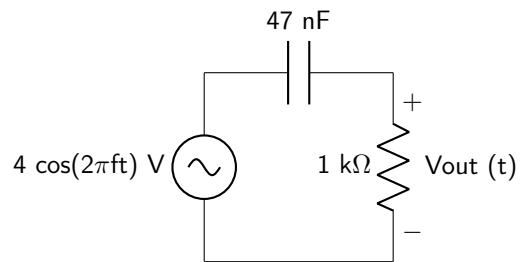

Figure 12.5: One of the mystery impedance box circuit diagrams.
7. Consider the circuit shown in figure 12.5.
8. Consider the circuit shown in figure 12.5.